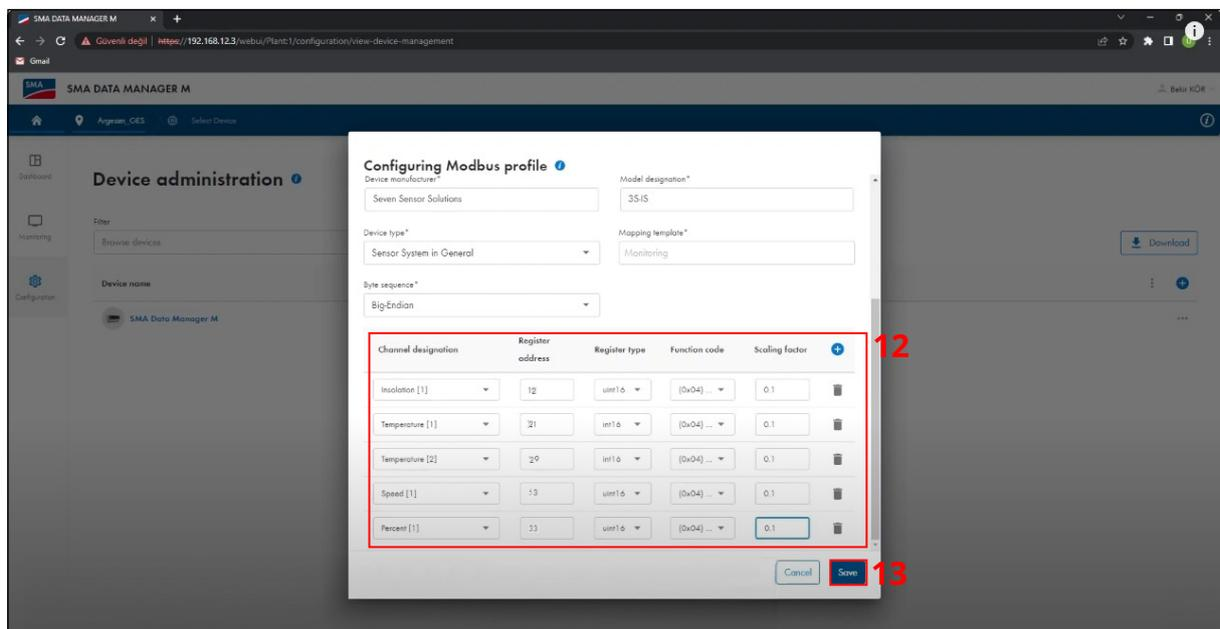

Figure 10: Configuration Settings of SEVEN Sensor Box
Step 12 : Define the information about the sensors as shown in Figure 10 for the configuration of the sensors that you have.